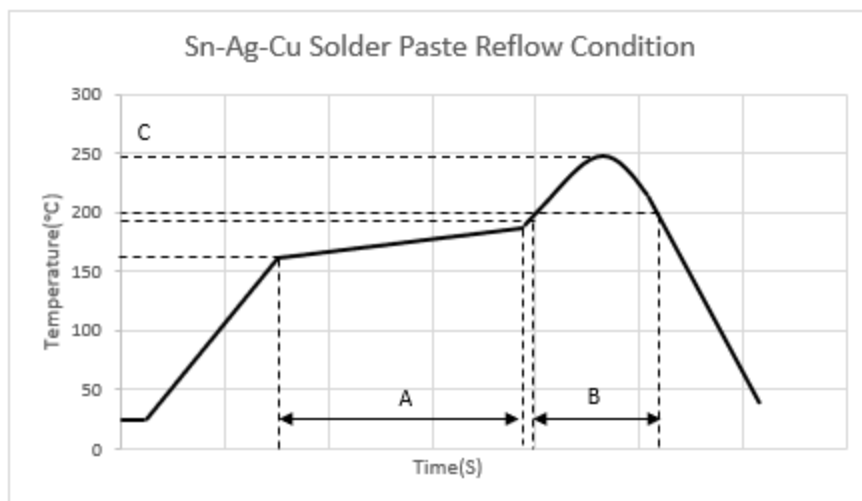

Figure 6
- b. Sn-Ag-Cu Solder Paste (See Figure 6)